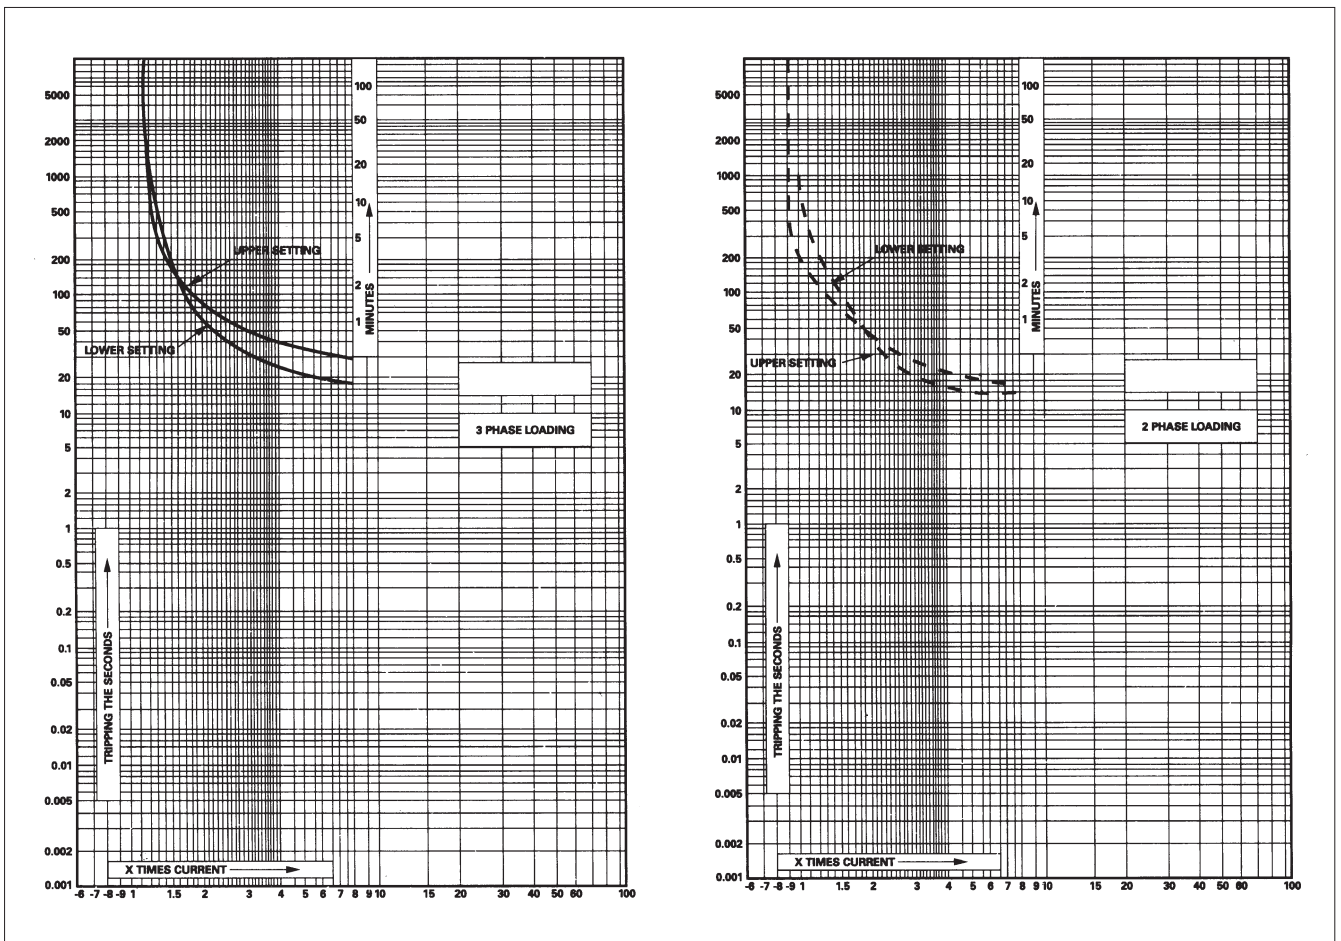

Fig. 6: Operating characteristics of 3UW51/52 relays
- Overload relay characteristics shown in Fig. 6 can be used to estimate the average tripping time at different multiples of set current.
The given characteristics (Fig. 6) are average values of all ranges and sizes of bimetal relays and are mainly intended to indicate the inverse time current characteristics of the